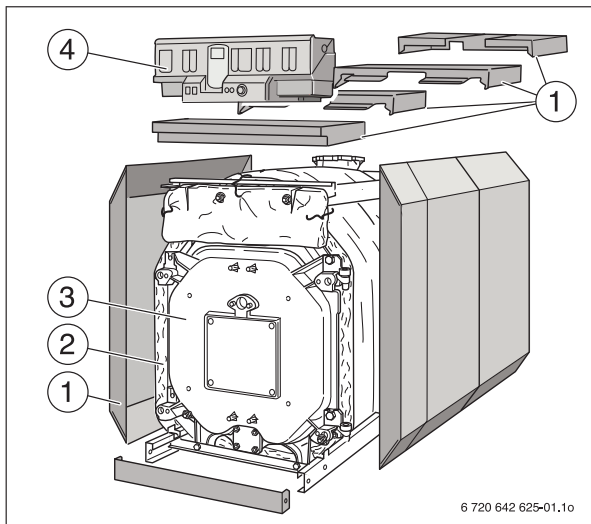

Fig. 1 Oil/gas fired boiler Logano G615
- Boiler block (→ Fig. 1, [3])
- Boiler shell (jacket → Fig. 1 and 2, [1]), thermal insulation (→ Fig. 1, [2]).
- Control panel (→ Fig. 1, [4])